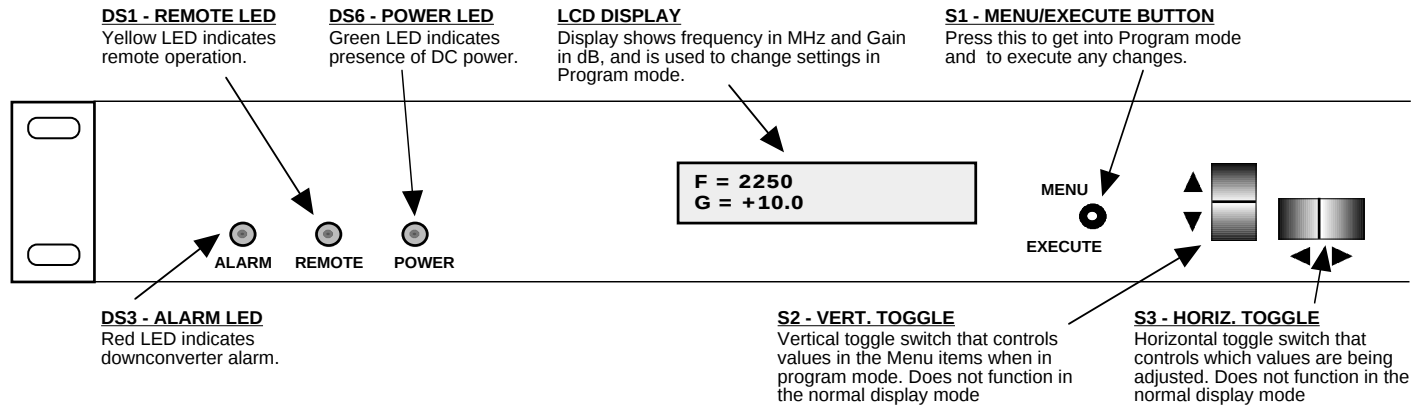

FIGURE 2.3 2016-25-300 Front Panel Controls and Indicators
6. Be sure DS6 (green, DC Power) is on and DS2 (red, Alarm) is off (Figure 2.3).
7. AC Fuse - The fuse is a 5 mm X 20 mm, 2 amp slow blow (Type T) and is inserted in the far slot in the drawer below the AC input as shown in Figure 2.3. There is a spare fuse in the near slot.